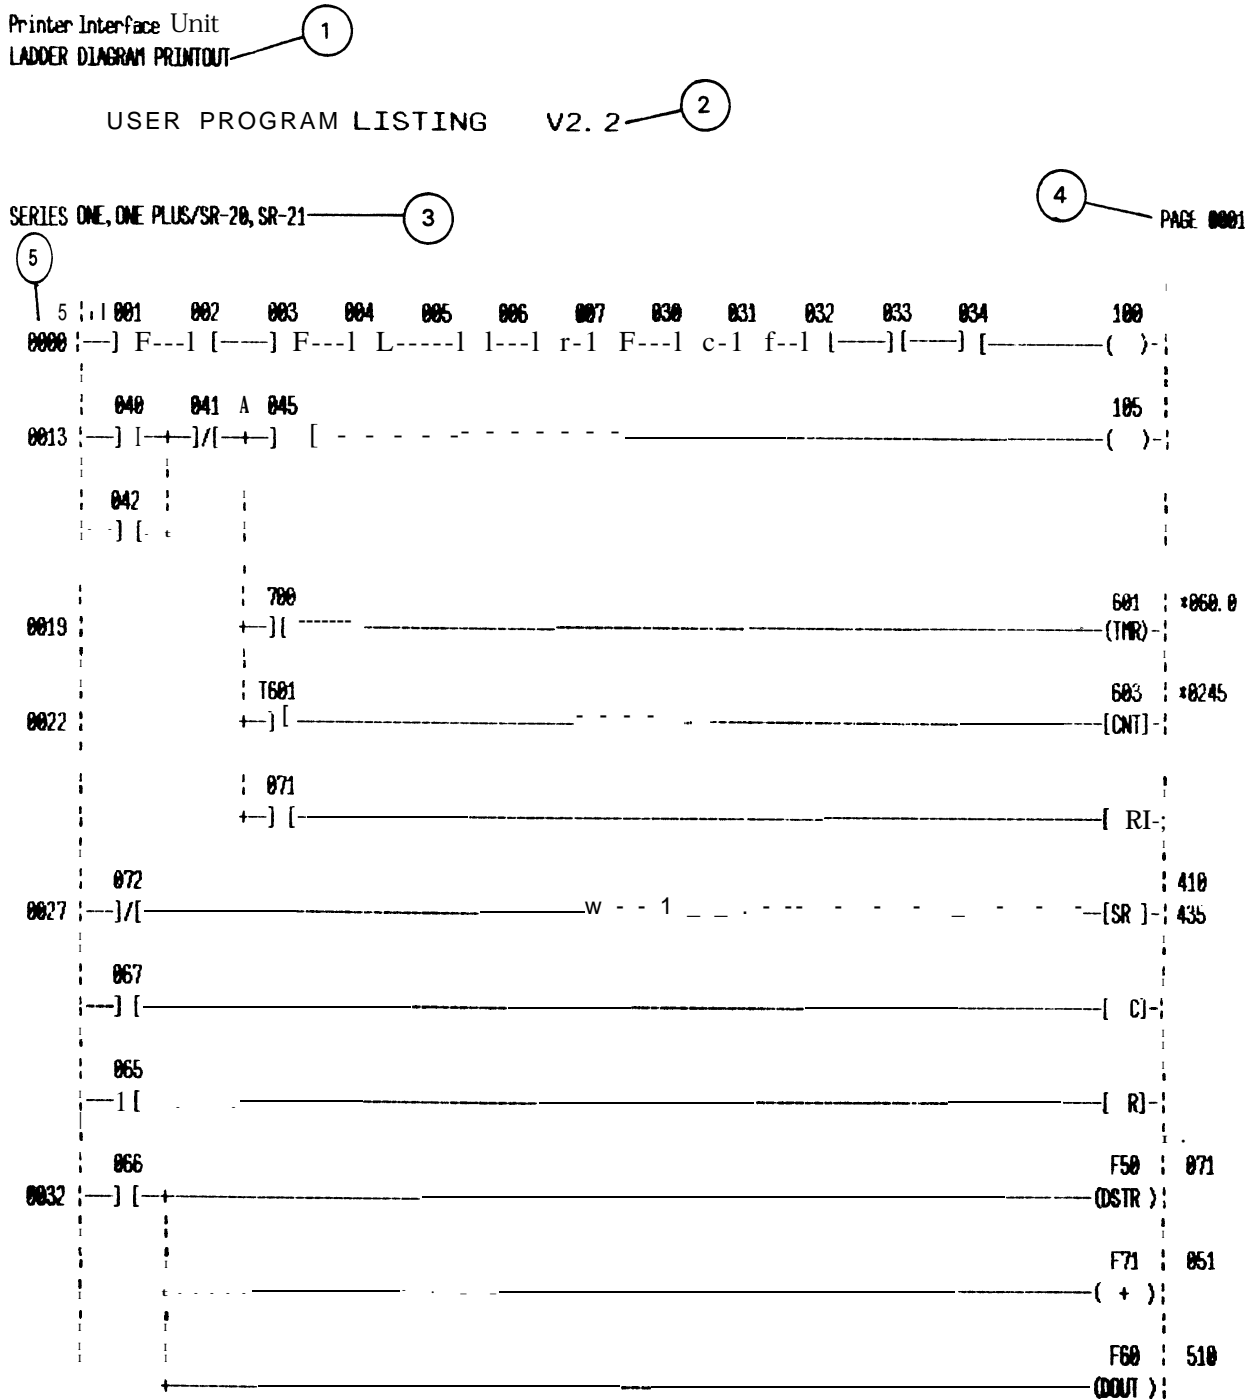

Figure 4-6. Sample Ladder Diagram Printout
Several items appearing on the printouts in figures 4-6 and 4-7 **are** explained for clarification. The ladder diagram printout in figure 4-6 has a circled number (1-5) next to each annotation, which corresponds to the number preceding the explanation of each annotation. The circled number 6 appears before an annotation on the Boolean printout in **figure** 4-7. The circled numbers (1-6) are for discussion purposes only and do not normally appear on a printout.
5. Refers to ladder diagram printout only. This **4-digit** decimal number is the user program memory address at the start of each rung of logic. The **first** element in the rung is stored **at** that address. In the example in figure 4-6, the memory address of the start of the first rung is 0000. The first element in that rung is a normally open contact referenced as **001** (reference number is printed directly above the contact). The memory address at the start of the second rung is 0013, the first element in this rung is a normally open contact referenced as 040.